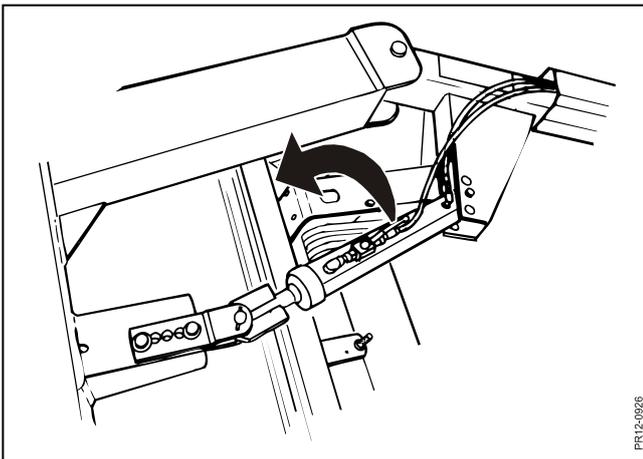

Fig. 2-19
**Fig. 2-19** Having put the machine in transport position, ball valve at the cylinder for the drawbar must be closed. This must be done in connection with leaking hoses or unintended use of the hydraulic handle during transport, so that the machine does not swing into working position during transport. Move the handle on the ball valve in the direction of the arrow in order to close the oil feed, as shown on the figure.